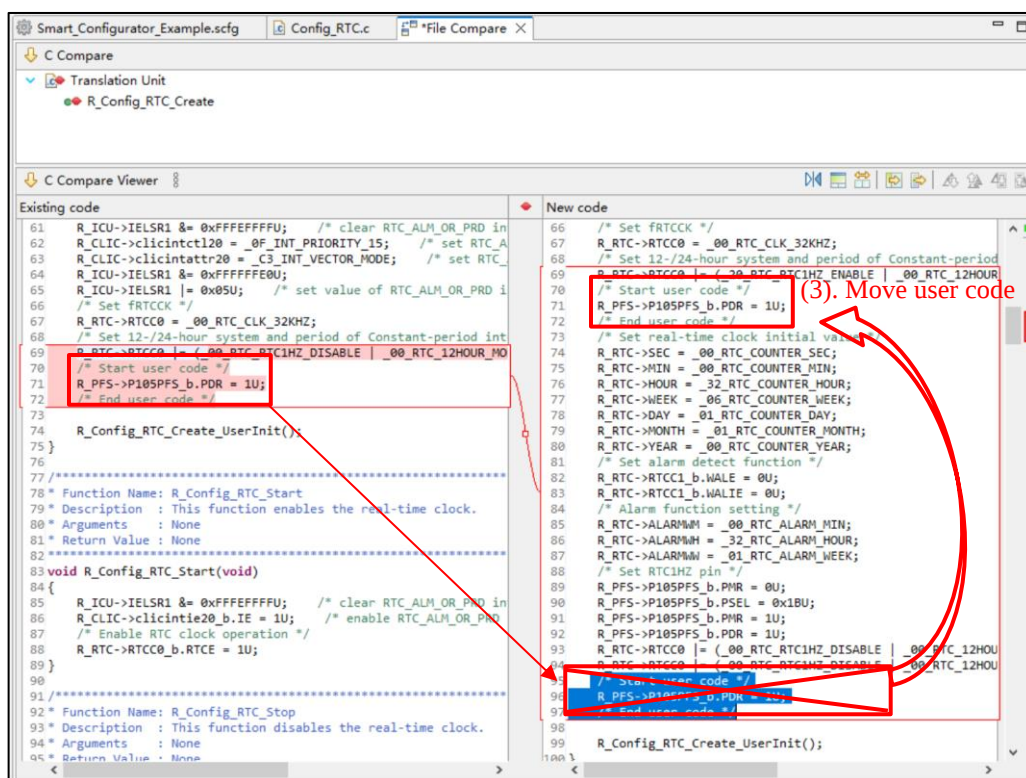

Figure 11-5 Code after Applying "Copy Current Change from Left to Right"
- (3) Move user codes to the place you want to use (Figure 11-5 Code after Applying “Copy Current Change from Left to Right”)